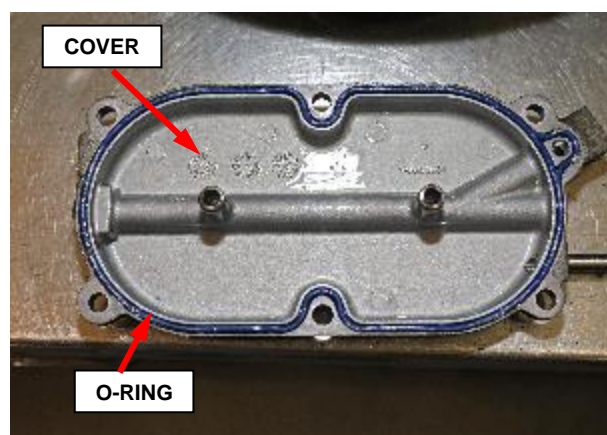

Figure 30 - Cover O-ring
65. Remove and discard the old cover O-ring. Lubricate the **NEW** seal with clean diesel and install it into the channel in the cover (Figure 30).